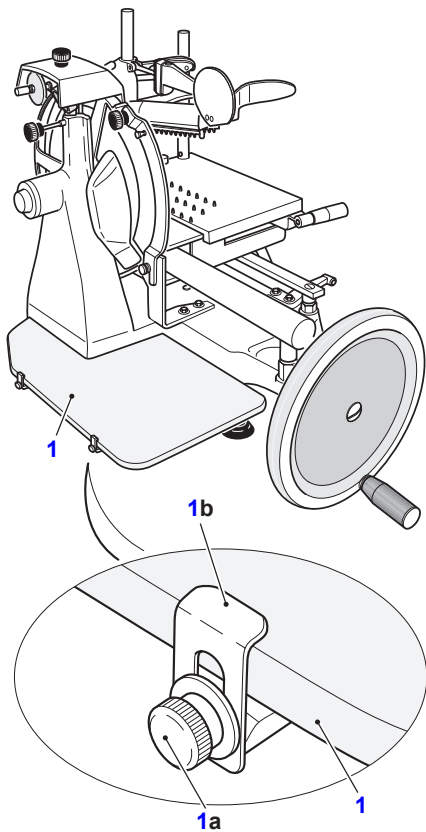

Figure 15-2
8. Remove the slice receiving tray (1). Loosen two screws (1a) to release slice receiving surface (1) from the retaining clips (1b) (Figure 15-2).
9. Wash the slice receiving tray (1) with warm water and normal dishwashing detergent.